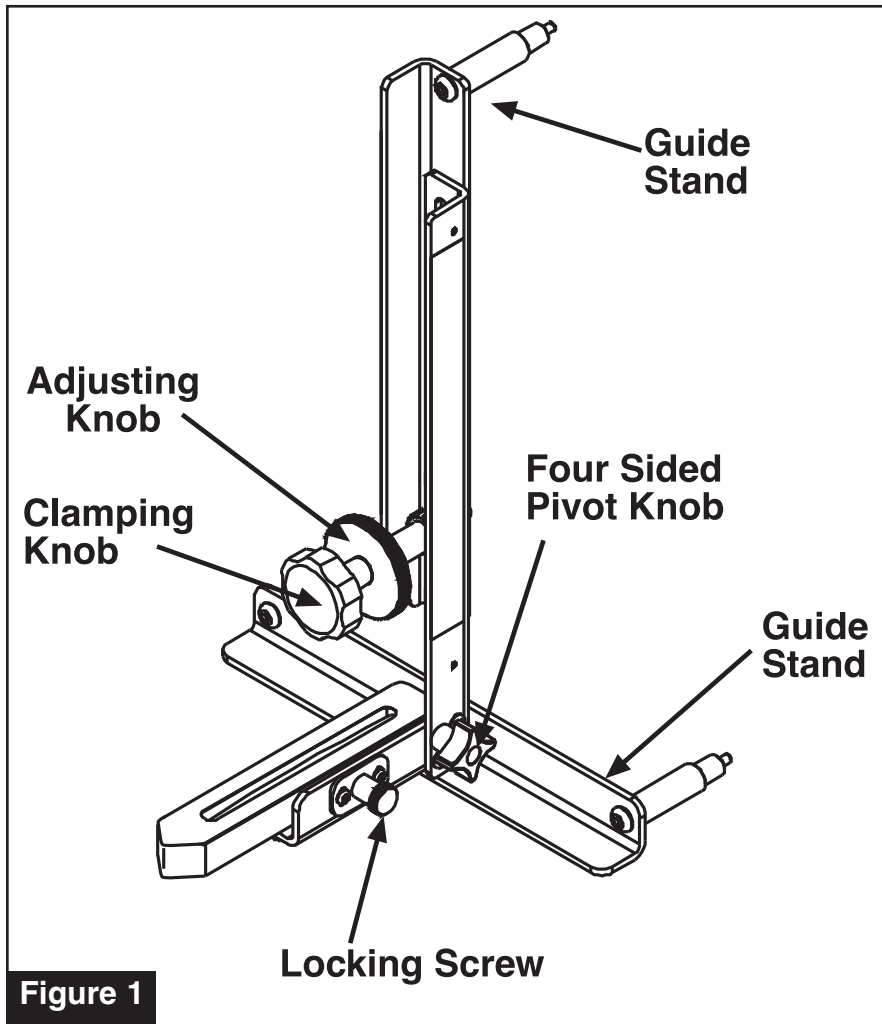

Figure 1
Measuring Camber: Slightly loosen the black clamping knob and rotate the adjusting knob (see **Figure 1**) to lengthen or shorten the tool. The **91000 FASTRAX™** adapts to most wheels from thirteen to eighteen inches in diameter. The **91010 FASTRAX™** adapts to most wheels from seventeen to twenty-two inches in diameter. Fit the tool so the guide studs (3) grasp either the inner or outer lip of the wheel rim. Adjust the tool to apply enough pressure for a snug fit and tighten the black clamping knob. In cases that the wheel has no rim or lip to grasp, simply hold the tool to the accessible flat surfaces and read your camber angles or changes.